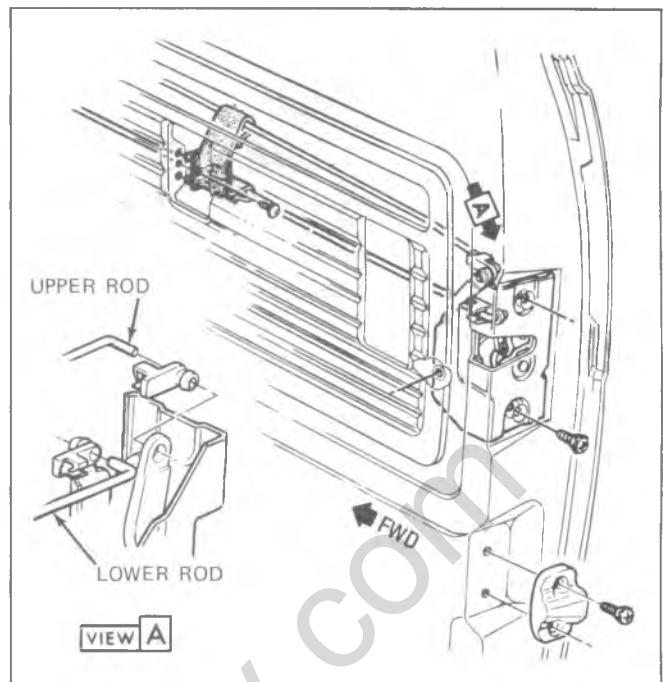

Fig. 2D-123--Sliding Door Rear Latch
1. Remove the hinge cover and rear track cover. See figures 2D-118 and 2D-124.